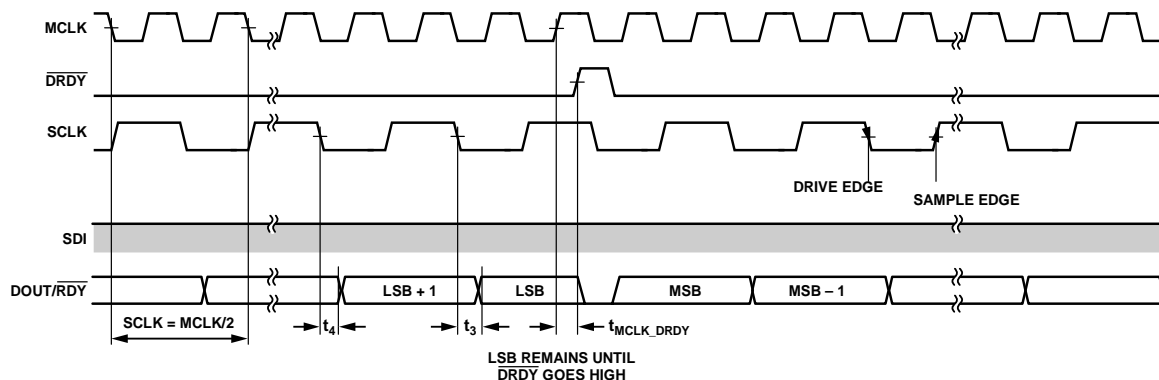

Figure 98. Recommended Interface for Reading Conversions, SPI Control, Continuous Readback Mode
The AD7768-1 interface is flexible to allow the many modes of operation and for data output formats to work across different DSPs and microcontroller units (MCUs). To achieve maximum performance, the recommended interface configuration for reading conversion results is shown in Figure 98. This recommended implementation uses a synchronous SCLK to MCLK relationship.
Figure 98 shows how the recommended interface operates. The data read back spans the entire length of the $\overline{\text{DRDY}}$ period and the LSB remains until $\overline{\text{DRDY}}$ goes high for the next conversion.
2. Generate SCLK based on the $\overline{\text{DRDY}}$ or $\overline{\text{RDY}}$ timing. SCLK is high when the $\overline{\text{DRDY}}$ signal goes high and transitions on the MCLK falling edges (see Figure 98) to ensure that the LSB can be read correctly as the DOUT/RDY output is reset on the $\overline{\text{DRDY}}$ rising edge. However, SCLK rising occurs before this transition.
Because the full ODR period is for clocking data, the $\overline{\text{RDY}}$ signal no longer flags after each LSB outputs. This signal only flags if the AD7768-1 is in continuous readback mode, or if the AD7768-1 does not count 32 SCLKs within $1 \times t_{\text{MCLK}}$ before $\overline{\text{DRDY}}$, as is shown in Figure 98.